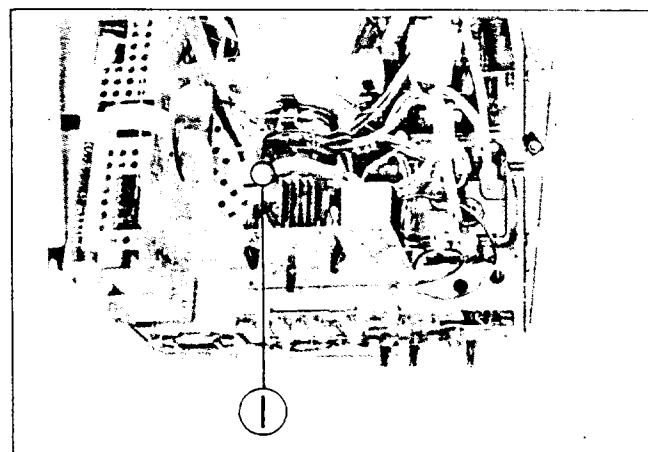

Fig. 6
5. Remove the CRT socket PB after loosen the screw marked (I) shown in Fig. 6. Then remove the connectors, and wire clamps (if necessary).